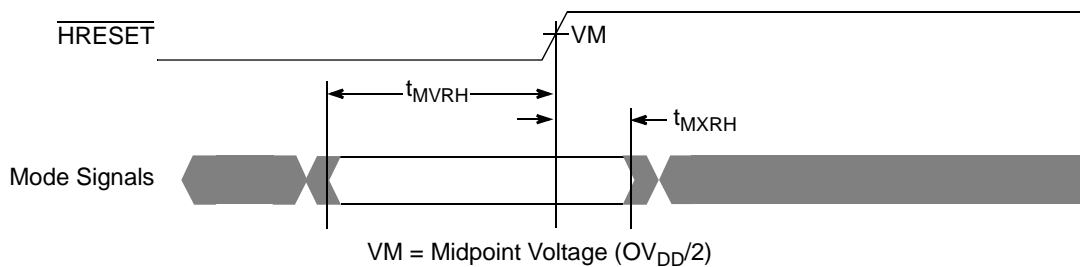

Figure 5. Mode Input Timing Diagram
Table 9 provides the processor bus AC timing specifications for the MPC7451 as defined in Figure 4 and Figure 5. Timing specifications for the L3 bus are provided in Section 1.5.2.3, “L3 Clock AC Specifications.”
- The symbology used for timing specifications herein follows the pattern of $t_{(\text{signal})(\text{state})(\text{reference})(\text{state})}$ for inputs and $t_{(\text{reference})(\text{state})(\text{signal})(\text{state})}$ for outputs. For example, t_{VKH} symbolizes the time input signals (I) reach the valid state (V) relative to the SYSCLK reference (K) going to the high (H) state or input setup time. And t_{KHOV} symbolizes the time from SYSCLK(K) going high (H) until outputs (O) are valid (V) or output valid time. Input hold time can be read as the time that the input signal (I) went invalid (X) with respect to the rising clock edge (KH) (note the position of the reference and its state for inputs) and output hold time can be read as the time from the rising edge (KH) until the output went invalid (OX).
- The setup and hold time is with respect to the rising edge of $\overline{\text{HRESET}}$ (see Figure 5).
Figure 5 provides the mode select input timing diagram for the MPC7451.